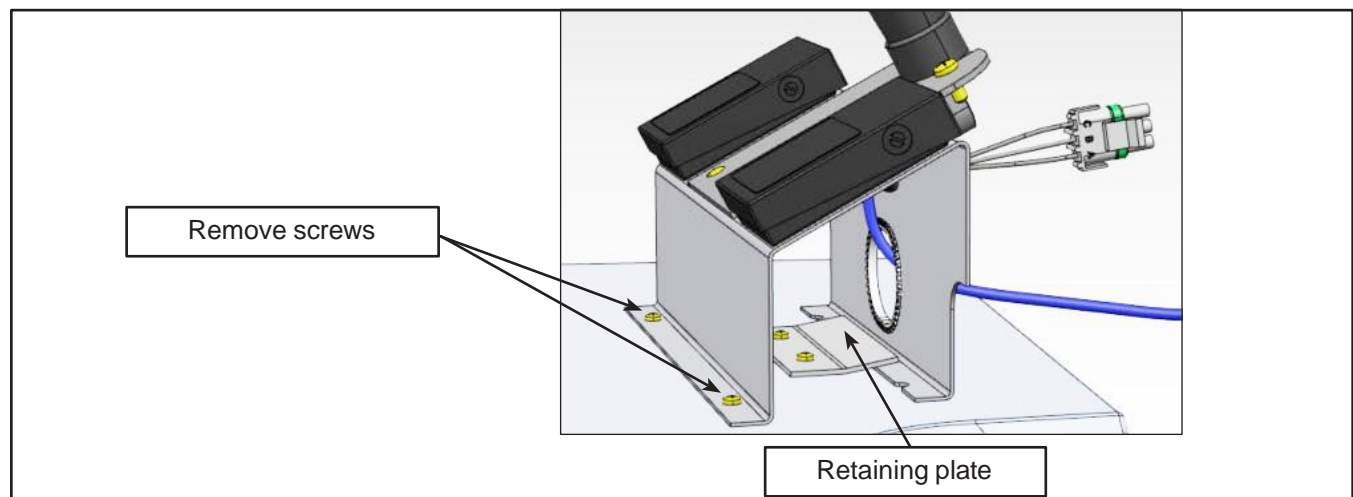

Figure 2 - Directional Foot Pedal Switch Installation
- 1.5. Unscrew and remove the 2 front screws fixing the foot pedal bracket to the floor (Figure 2). Keep the screws.